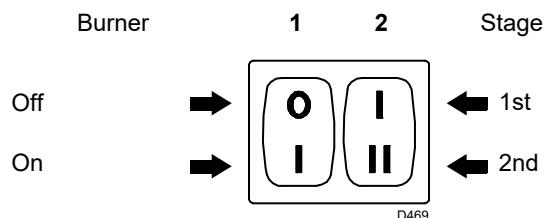
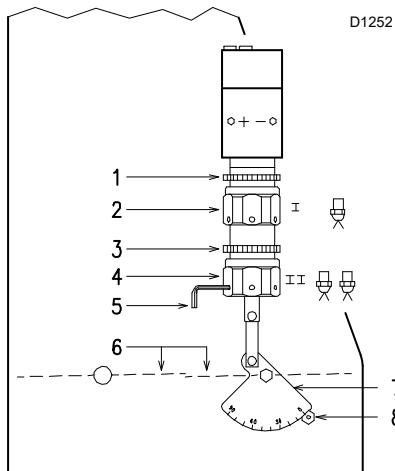

Fig. 20
Fig. 21
- Start the burner by closing the control devices and with switch 1)(page 18 Fig. 20) in the "ON" position. The pump must rotate in the direction of the arrow marked on the cover.
– The pump can be considered to be primed when the light oil starts coming out of the screw 3). Stop the burner: switch 1)(page 18 Fig. 20) set to "OFF" and tighten the screw 3).
Set switch 1)(Fig. 20) to "ON".
Keep the burner operating at 1st stage by setting the switch 2)(Fig. 20) to the 1st stage position. Opening of the air gate valves 6)(Fig. 21) must be adjusted in proportion to the selected nozzle: the index 8)(Fig. 21) must be aligned with the notch indicated on the graduated sector 7)(Fig. 21). This adjustment is achieved by turning the hex element 2)(Fig. 21):
Set switch 2)(Fig. 20 page 18) to the 2nd stage position and adjust the air gate valve 6)(Fig. 21) by turning the hex element 4)(Fig. 21), after having loosened the ring nut 3)(Fig. 21).
in order to facilitate adjustment of hex elements 2) and 4)(Fig. 21), use a 3 mm Allen key 5)(Fig. 21).